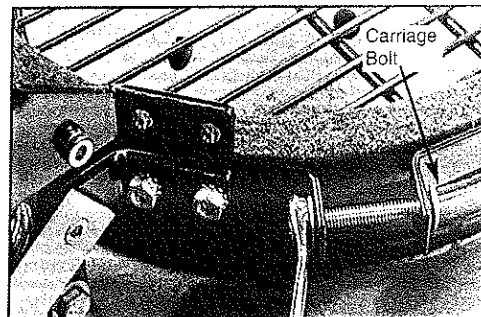

Fig. 3
3. Insert one carriage bolt through the square hole in the band flange, then through the round hole in the opposite band flange. Install one flat washer and one hex nut and hand tighten only. (See Fig 3)